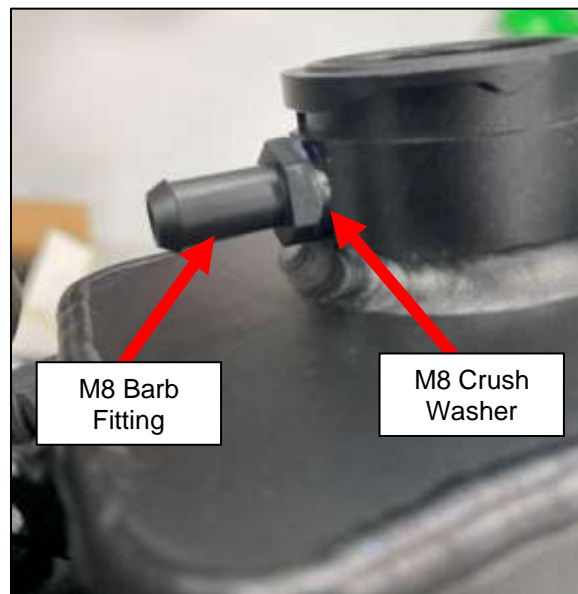

Figure 71
18. Locate the new G35 Coolant Reservoir Tank (#83), M8 Aluminum Crush Washer (#29), and the M8 x 1.25 Barb Fitting (#28). Install the Barb Fitting with the Crush Washer into the fill port of the Reservoir Tank. Do not over torque the Barb Fitting as it will break. *Figure 71.*